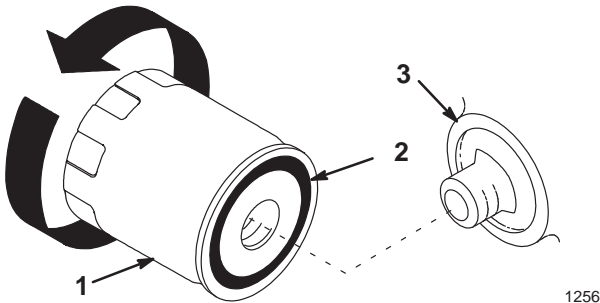

Figure 15
6. Change the oil filter. (Fig. 15).
2. Remove the old filter and wipe the filter adapter (Fig. 15) gasket surface.
3. Apply a thin coat of new oil to the rubber gasket on the replacement filter (Fig. 15).
4. Install the replacement oil filter to the filter adapter. Turn the oil filter clockwise until the rubber gasket contacts the filter adapter, then tighten the filter an additional 1/2 turn (Fig. 15).